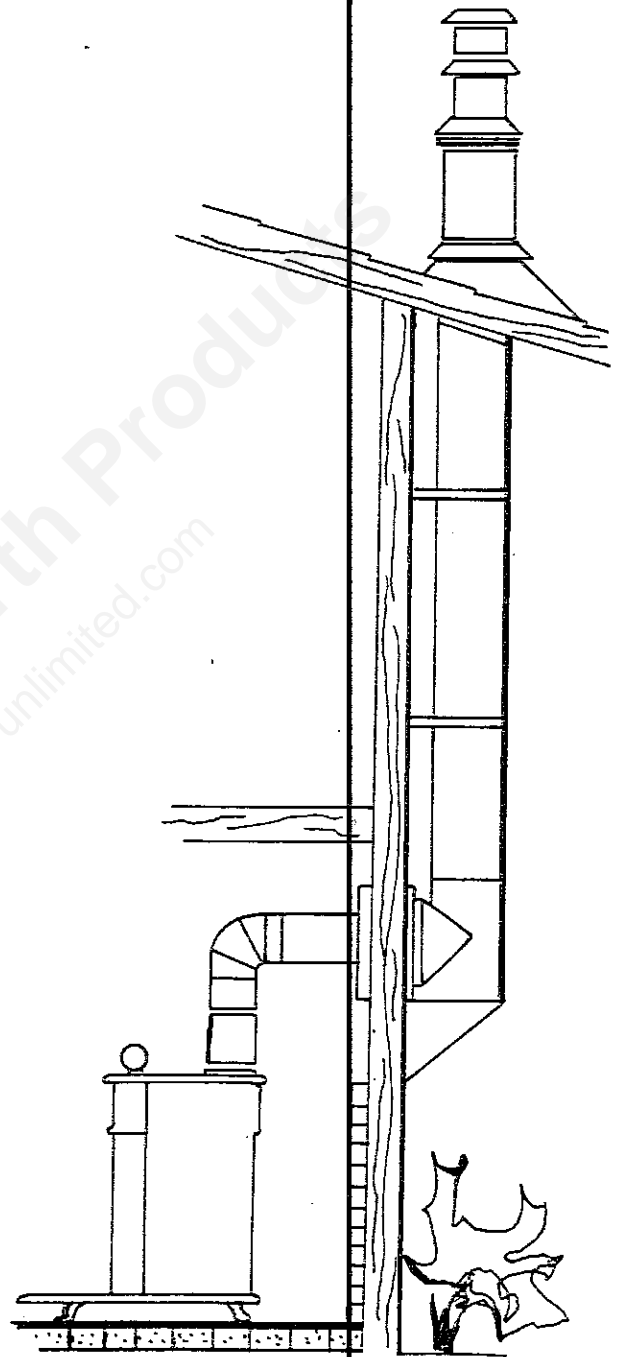

Fig. 6
3. The installation shown in figure 6 is designed to avoid the problem of condensation. The elbow to outside offsets the chimney and any condensation stays outside the house.